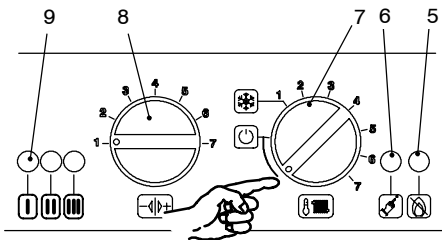
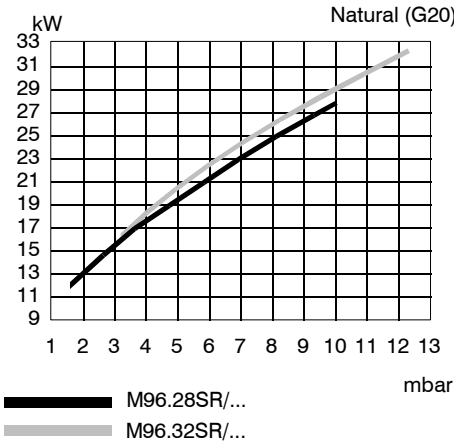
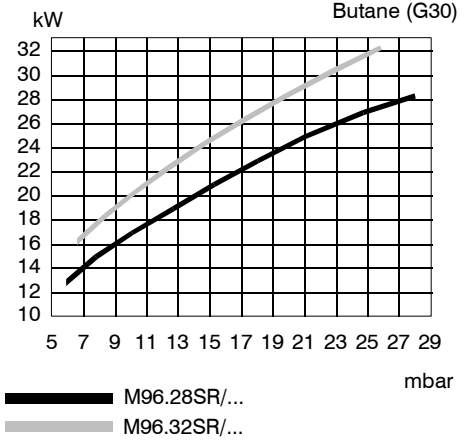
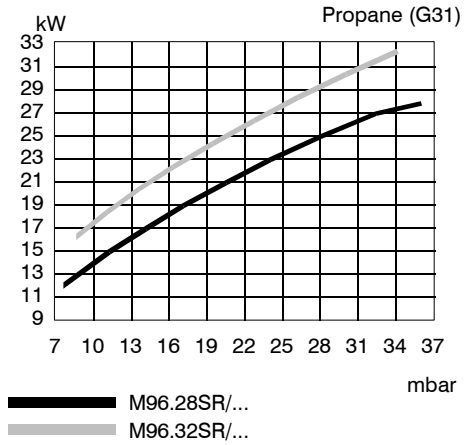

Fig. 7.6
Fig. 7.11
Fig. 7.12
Fig. 7.13
Refer to Fig. 7.11, Fig. 7.12 and Fig. 7.13 (depending on the gas used) and determine the correct burner pressure appertaining to the output required for the central heating requirement.
- 3 Rotate the service and installation knob 8 as in Fig. 7.6.
- 4 Turn the boiler ON positioning the function selector 7 as indicated in Fig. 7.6 and ensure that the timer selector switch and room thermostat, if fitted, are set to "heat demand".
- 8 Rotate the service knob 8 in Fig. 7.6 to obtain the pressure to the burner to meet with the central heating system requirements. Refer to the diagrams shown in Fig. 7.11, Fig. 7.12 or Fig. 7.13. By rotating clockwise the pressure increases.